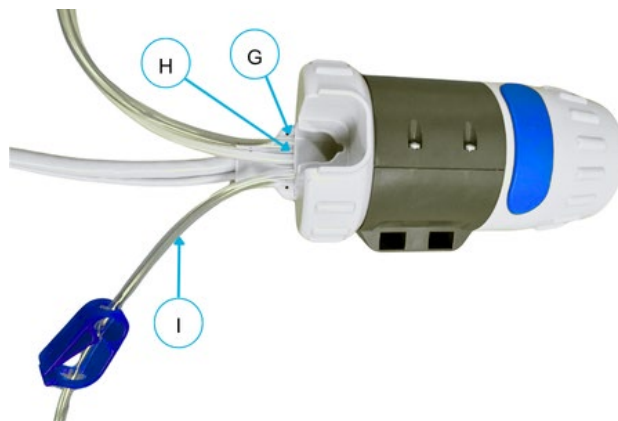

Figure 11-4: Delivery Device Lines
2. Press together until the posts are fully inserted into the slots on the Delivery Device (F).
4. Initiate connection of the three lines from the Delivery Device (Figure 11-4):
- Saline Flush Line (G)
- Water Line (H)
- Drain Line (I)